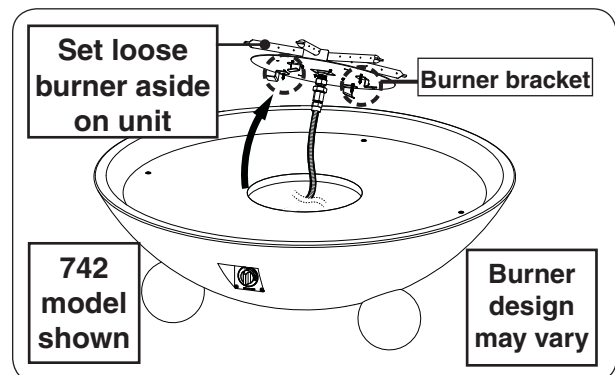

Fig. 26-3 Remove burner assy
1. Use a  $\frac{5}{16}$ " nut driver to partially unfasten the four screws found on the burner assembly. Then **carefully** remove the burner and set it off to the side. See Fig. 26-3.